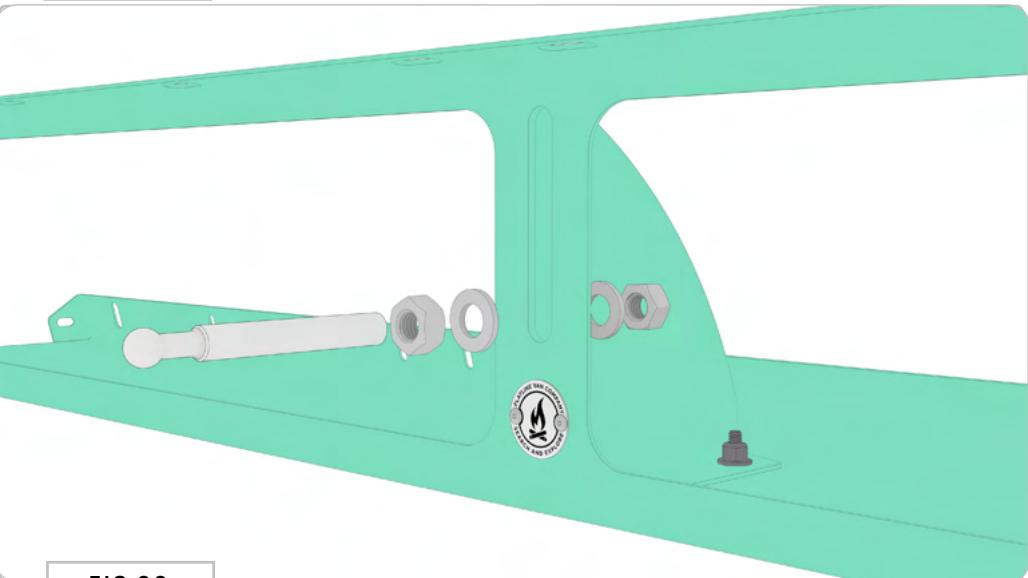

FIG 60
4.1 Assemble Overhead Shelf: Loosely install 12mm Ball Stud to the Overhead Shelf in the location shown using (2) M12 Nuts and Flat Washers (FIG 60).